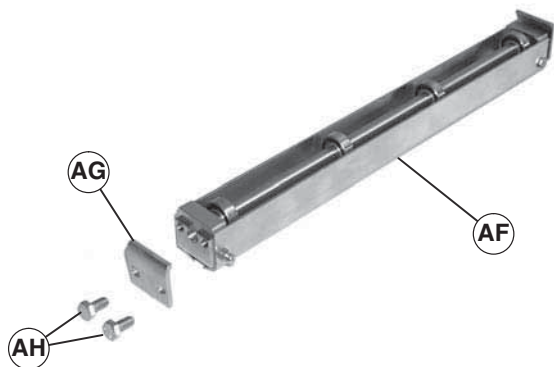

Figure 14
- Typical return roller components (Figure 14)